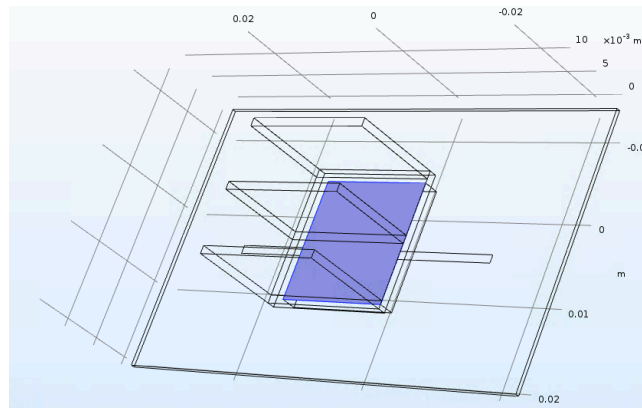

Figure -2: Thermal Contact R_{CH}
- Select a thermal contact between the surface of the heat sink and the IC and give a value of 5.5 degC/W as shown in figure-2.